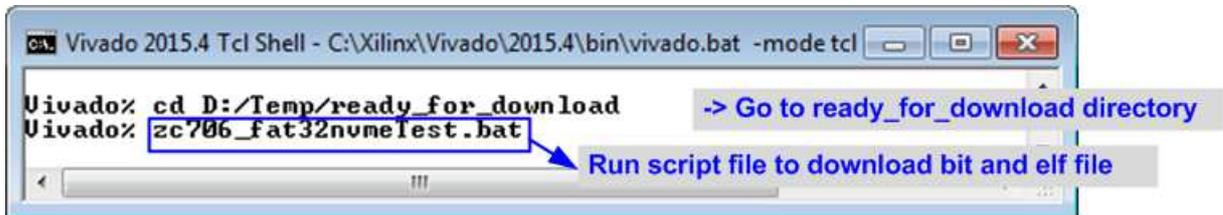

Figure 2-8 Command script for download demo file to ZC706 by Vivado TCL Shell
- a) For ZC706 board, open Vivado TCL shell, change current directory to ready_for_download, and run zc706_fat32nvmeTest.bat, as shown in Figure 2-8